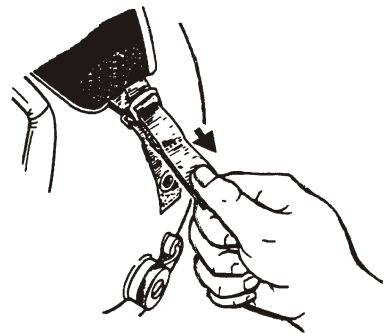

Figure 2-12. Installing Visor
2. Referring to Figure 2-12, install the clear or neutral visor by stretching the end of the strap slightly past the helmet snap and fastening the visor snap to the helmet snap *from front to back*. Repeat for the other side.